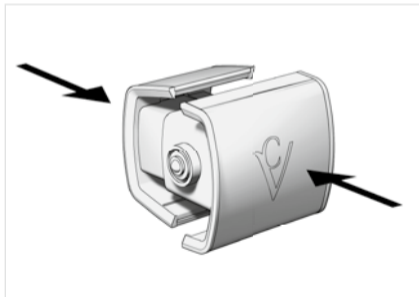

Fig. 01 Watch clasp.
1. Pull the watch clasp out of your Chronovision One holder with your thumbs and index fingers and squeeze (see Fig. 01).